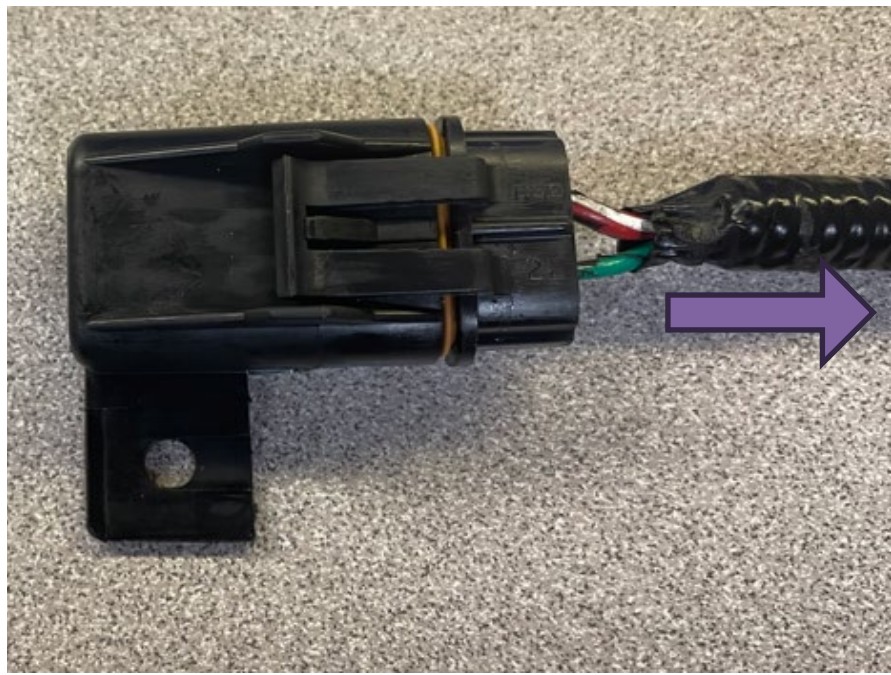

Figure 4
6. Gently pull back the corrugated tube and PVC tape away from the fuse holder. (See Figure 4.)